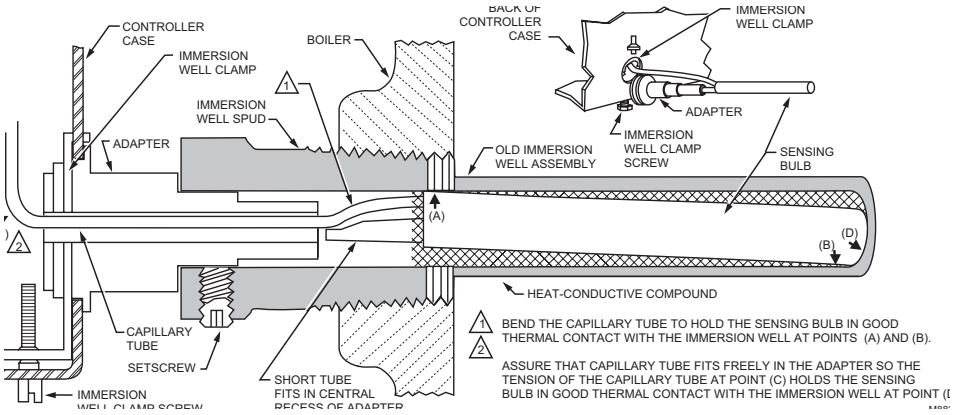

Fig. 2. Position of bulb in immersion well and use of well adapter when required.
with the relay.) Refer to form 68-0040, Wells and Fittings for Temperature Controllers, to order well. A compression fitting is available for applications where direct immersion of the sensing bulb is desired. A 124904 Well Adapter (see Fig. 2) can be ordered separately to adapt some other wells to the mounting clamp. The boiler must be provided with a tapping that allows horizontal mounting of the well. It should be located where boiler water of average temperature can circulate around the well.
6. Insert the element in the well until it bottoms. See Fig. 2.